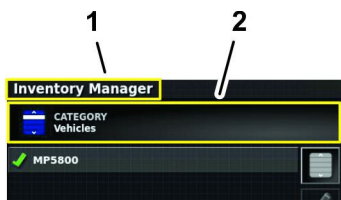

Figure 88
5. If the category Jobs is not displayed on the Category icon, press the Category icon (Figure 88).